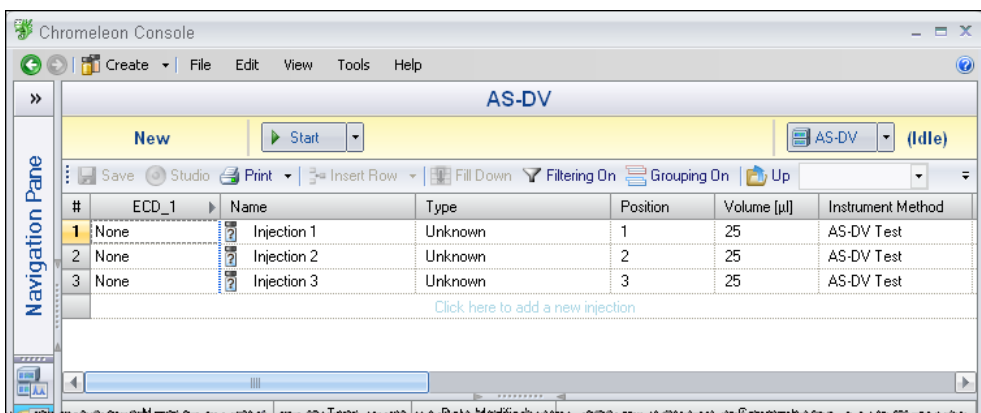
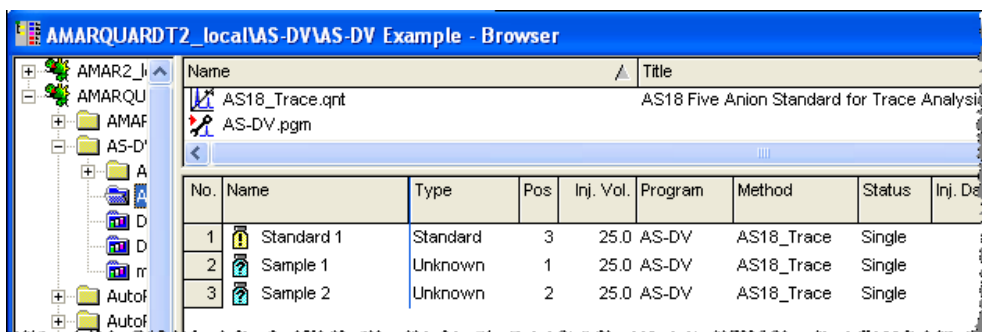

Figure 3-6. Example Sequence on the Chromeleon 7 Console
Figure 3-7. Example Sequence in the Chromeleon 6.8 Browser
- On the last page of the wizard, click **Finish** (Chromeleon 7) or **Done** (Chromeleon 6.8). The sequence opens on the Chromeleon 7 Console (see Figure 3-6) or in the Chromeleon 6.8 Browser (see Figure 3-7).
On the Console, click **Start** on the Sequence Control Bar above the injection list (see Figure 3-6).